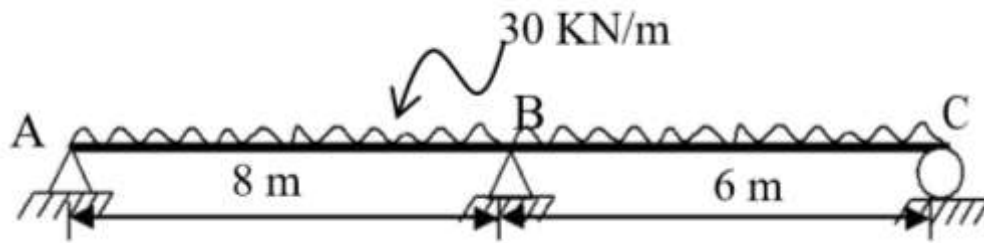

Figure 2
- (c) A two-span continuous beam ABC has span length AB = 8m and BC = 6m and carries a UDL of 30 kN/m completely covering the span AB and BC. Hence A and C are simple Supports shown in Figure 2. If the load factor is 1.8 and the shape factor is 1.15 for the 'I' Section, find the section modulus needed. Assume yield stress for the material as 250 N/mm². Also, design the continuous beam and suggest a section. **07**